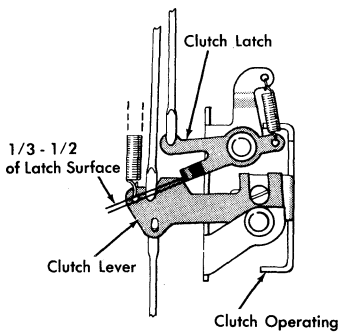

Figure 29. Clutch Latch Bite
12. Adjust the carriage return-tab interlock eccentric stop to permit the clutch latch to engage the clutch lever by $\frac{1}{3}$ to $\frac{1}{2}$ of the clutch latch surface when the clutch is fully latched (Figure 29). To observe this adjustment, remove the right-hand ribbon spool and latch the clutch.